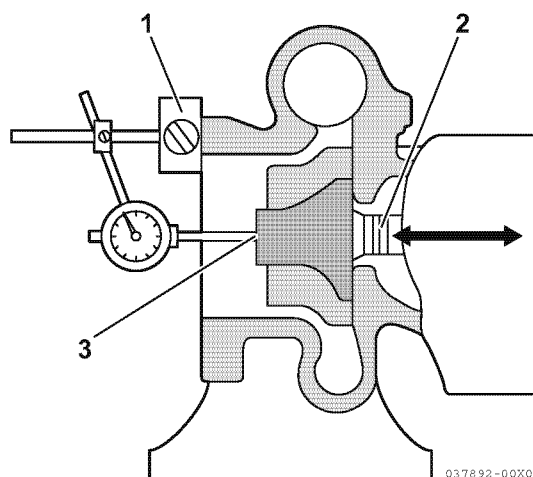

Fig.24-15
- 1 - Set up a dial indicator as shown in (1, Fig.24-15) to the turbocharger housing, and place the gauge against the end of the rotor (turbine shaft) (2, Fig.24-15) in the axial direction (3, Fig.24-15).